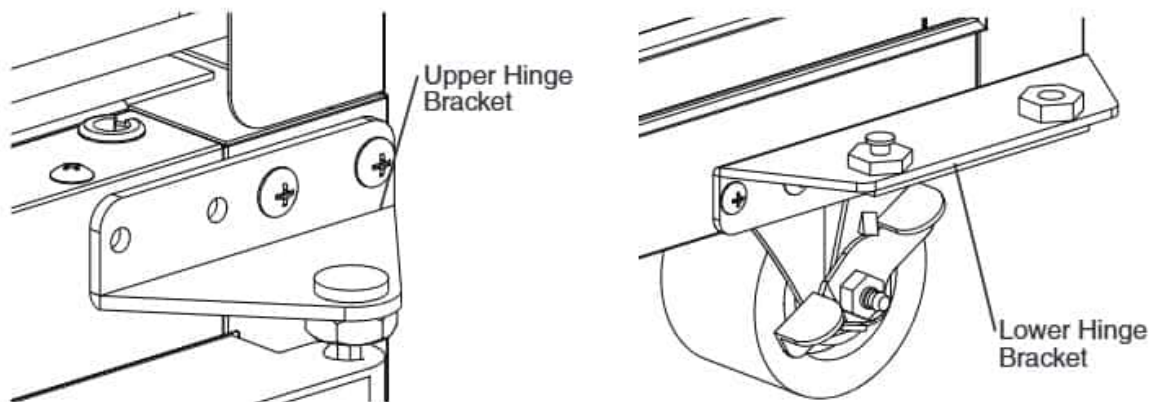

Fig. 42
- 8) Close the door, then remove the screws securing the upper hinge bracket. See Fig. 42.